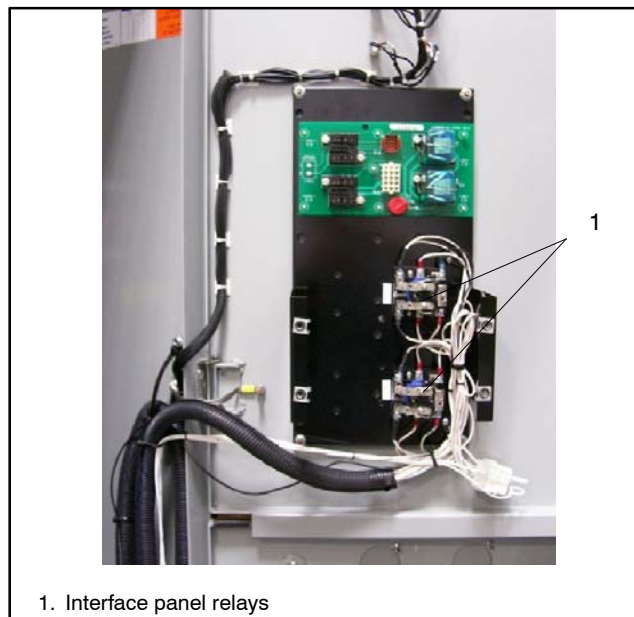
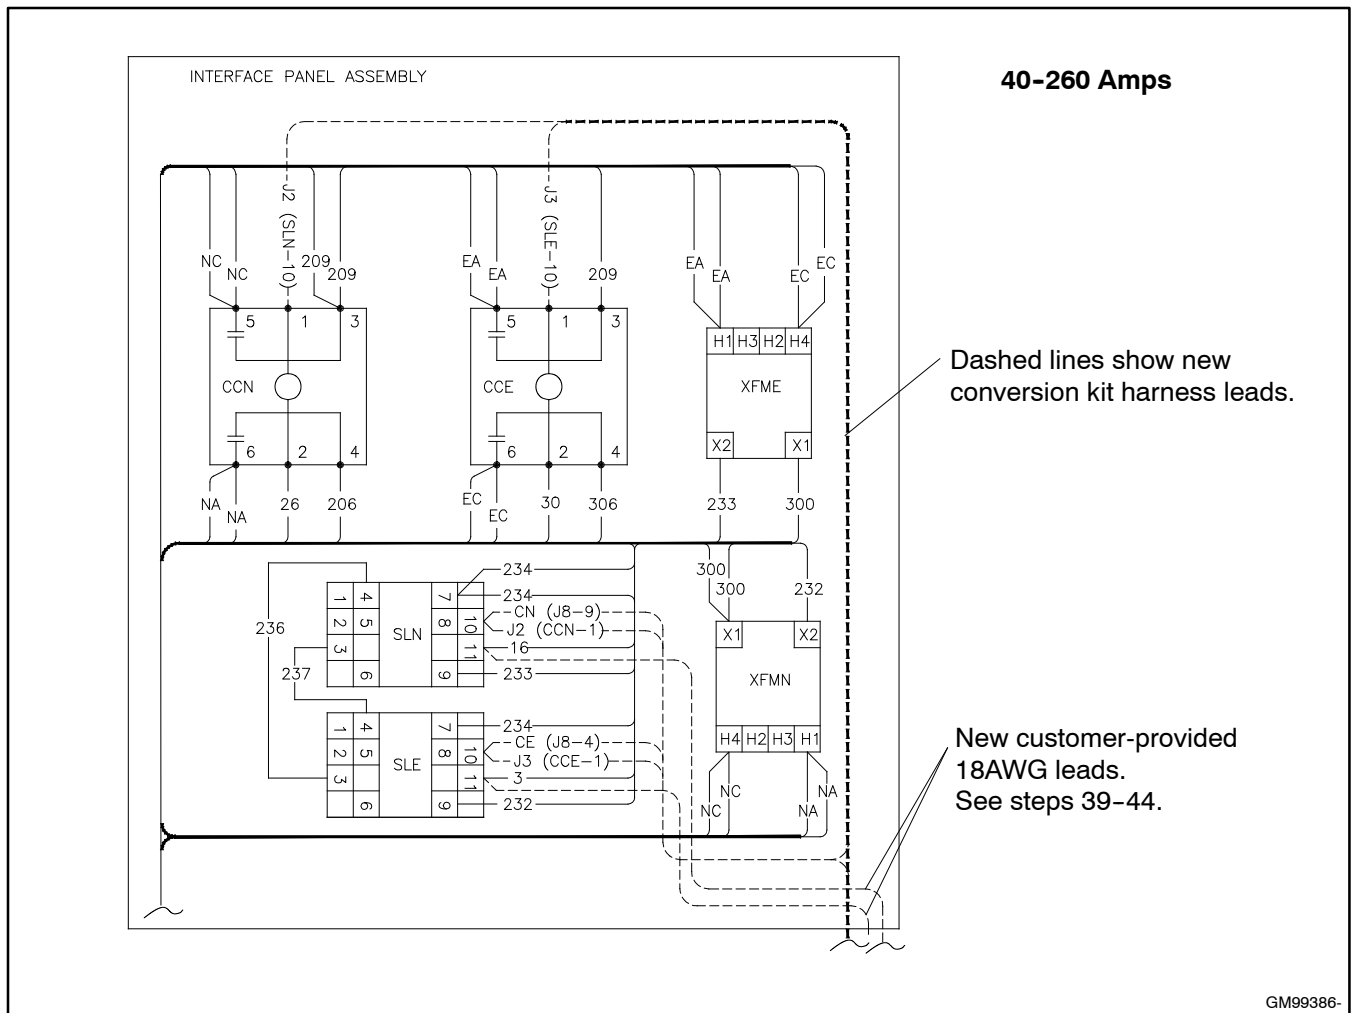
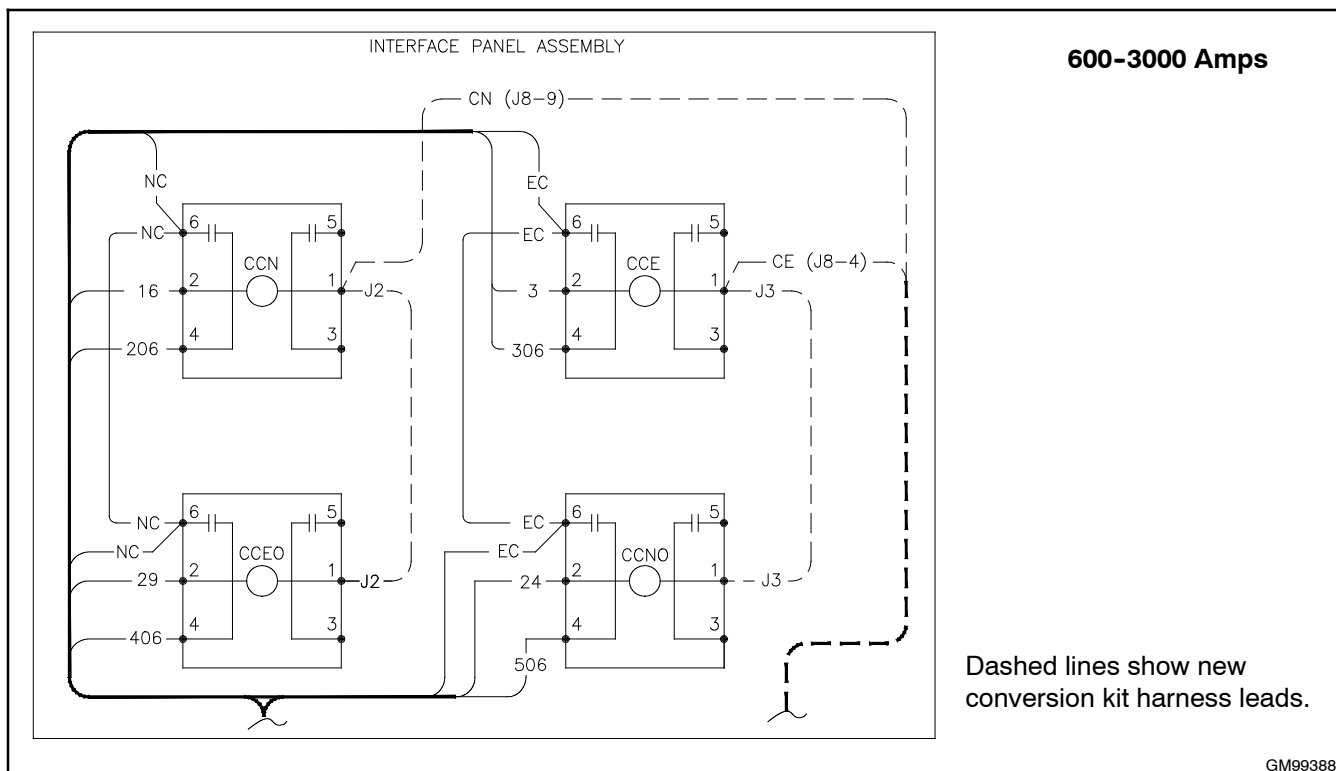
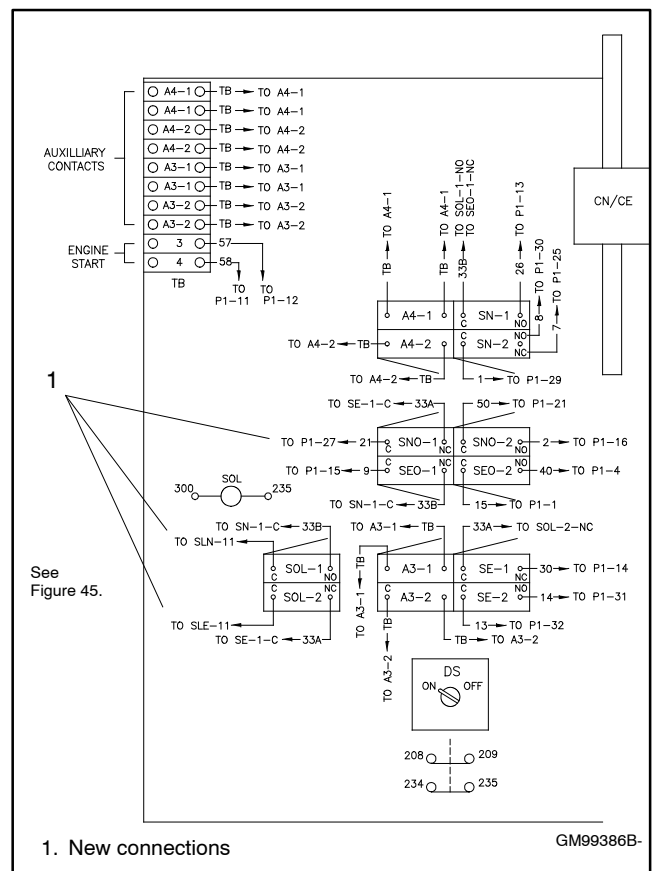

Figure 44 Interface Panel Relay Locations (two relays not shown)
Figure 45 Interface Panel Relay Connections, 40-260 Amps
Figure 47 Interface Panel Relay Connections, 600-3000 Amps
Figure 52 New Connections, 40-260 Amp Models
35. Connect leads CN, CE, J2, and J3 of the conversion kit harness GM77827 to the interface panel assembly relays. See Figure 44 and refer to the partial wiring diagrams shown in Figure 45 through Figure 47.
41. Add a lead (customer-provided 18 AWG lead) from SOL-1-C to relay SLN-11 on the interface panel. See Figure 45 and Figure 52.
43. Reroute lead 21 to SNO-1 terminal C. See Figure 52. (Re-use or disconnect and discard the existing lead 21 connected to SNO-1-C.)
44. Add a lead (customer-provided 18 AWG lead) from SOL-2 terminal C to relay SLE-11 on the interface panel. See Figure 45 and Figure 52.